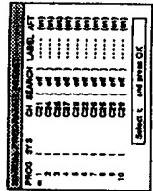

Fig. 24.
- Select "Manual Programme Preset" with  $\circ$  or  $\circ$  and press OK. The MANUAL PROGRAMME PRESET menu appears. (See Fig. 24.)